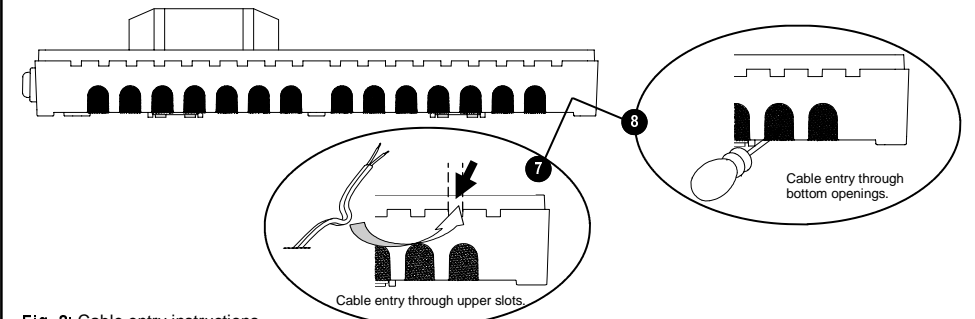

Fig. 2: Cable entry instructions.
Using pliers, carefully remove the plastic 'teeth' shown arrowed 7, Fig. 2, then after connecting the cable to the appropriate terminal, bend it as shown in Fig. 2 and clamp using the clamps provided.
Pierce the sponge as shown in item 8, Fig. 2, then pass the cable through the sponge into the centre. Make the electrical connections to the appropriate terminals and clamp using the clamps provided.